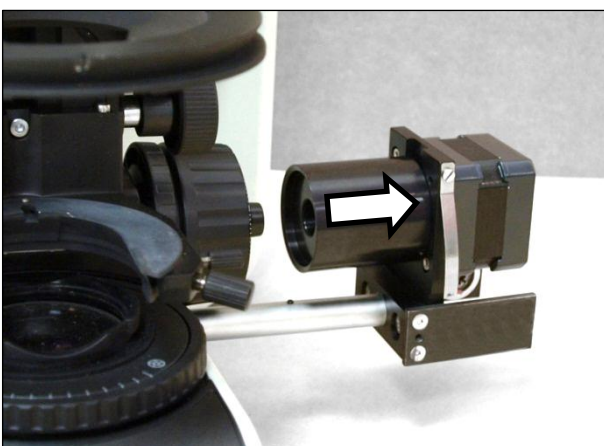

Fig. 6
- ▶ Insert the mounting aid (4) into the motor unit as illustrated in Fig. 6.